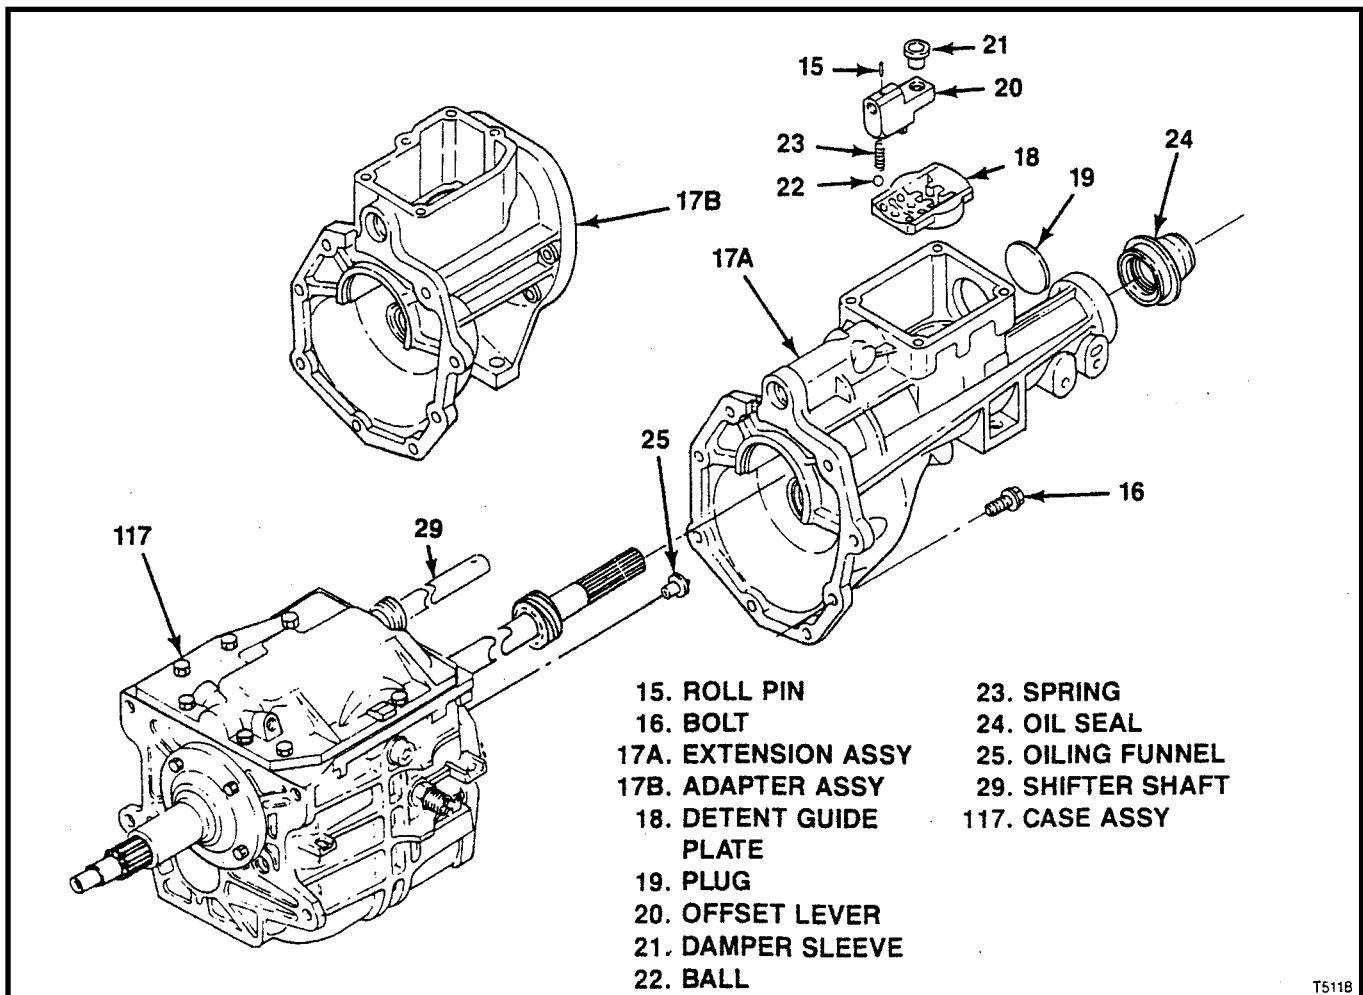

Figure 3-2. T5 WC Extension or Adapter
Failure to shift transmission into neutral at 3-4 position before removing control lever and housing assembly may result in driving roll pin (15, figure 3-2) into detent guide plate (18) when pin is removed (paragraph 3-8).
- c. Remove screws (2). If extended control lever and housing assembly (3C) is used, also remove screws (2A).
- d. If necessary, use suitable knife to break sealant bond between control lever and housing assembly (3A, 3B or 3C) and extension (17A) or adapter (17B). Remove control lever and housing assembly. Remove boot (4) only if replacement is required.
- g. As used, remove neutral switch (6), pin (7), harness retainer (8), screw (9), speedo adapter (10) roll pin (11), speedo driving gear (12) oil seal (13) and o-ring (14).
3-8. REMOVAL OF T5 WC EXTENSION OR ADAPTER. With offset lever accessible and in neutral at 3-4 position (paragraph 3-7, step b), proceed as follows (see figure 3-2):